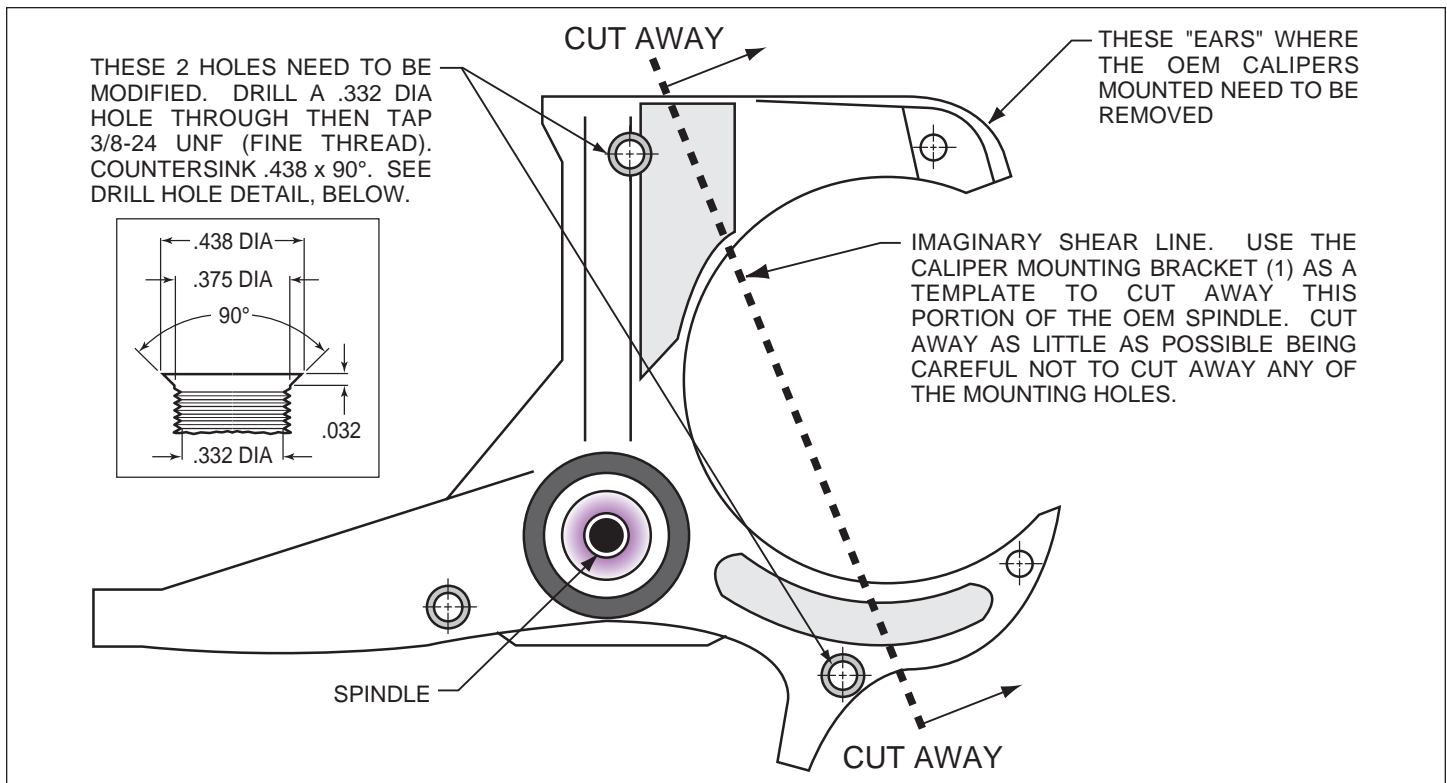

Figure 1. Steering Arm / Spindle Modifications
**NOTE:** This modification should be performed by a qualified machinist and completed before assembly of the Wilwood disc brake kit begins. Refer to Figure 1 on the following page as necessary (numbers in parenthesis refer to the parts list on page three). Only one view of the steering arm/spindle is shown, but the modifications need to be performed on both steering arm/spindles.
The two stock holes that will be used to mount the caliper mounting bracket (1) need to be modified, as shown in Figure 1. Drill a .332 diameter hole through the two holes, then tap 3/8-24 UNF (fine thread). Countersink the holes to .438 x 90°. The “ears” that protrude to form a “C” shape need to be removed to facilitate the installation of the Wilwood caliper (15). Using the bracket as a template, mark two cut marks on the steering arm. Remove as little as necessary from the “C” shape, being careful not to cut away any of the mounting holes required to bolt on the bracket.